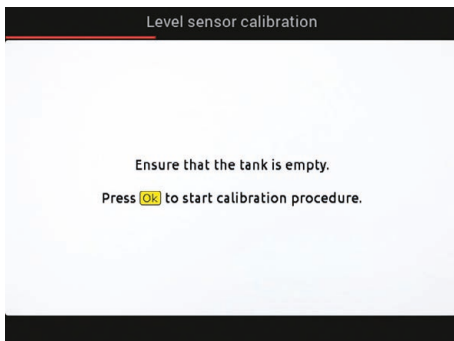

Fig. 144
- 2 The message in Fig. 144 is displayed: follow the instructions, then start the procedure by pressing **OK**.